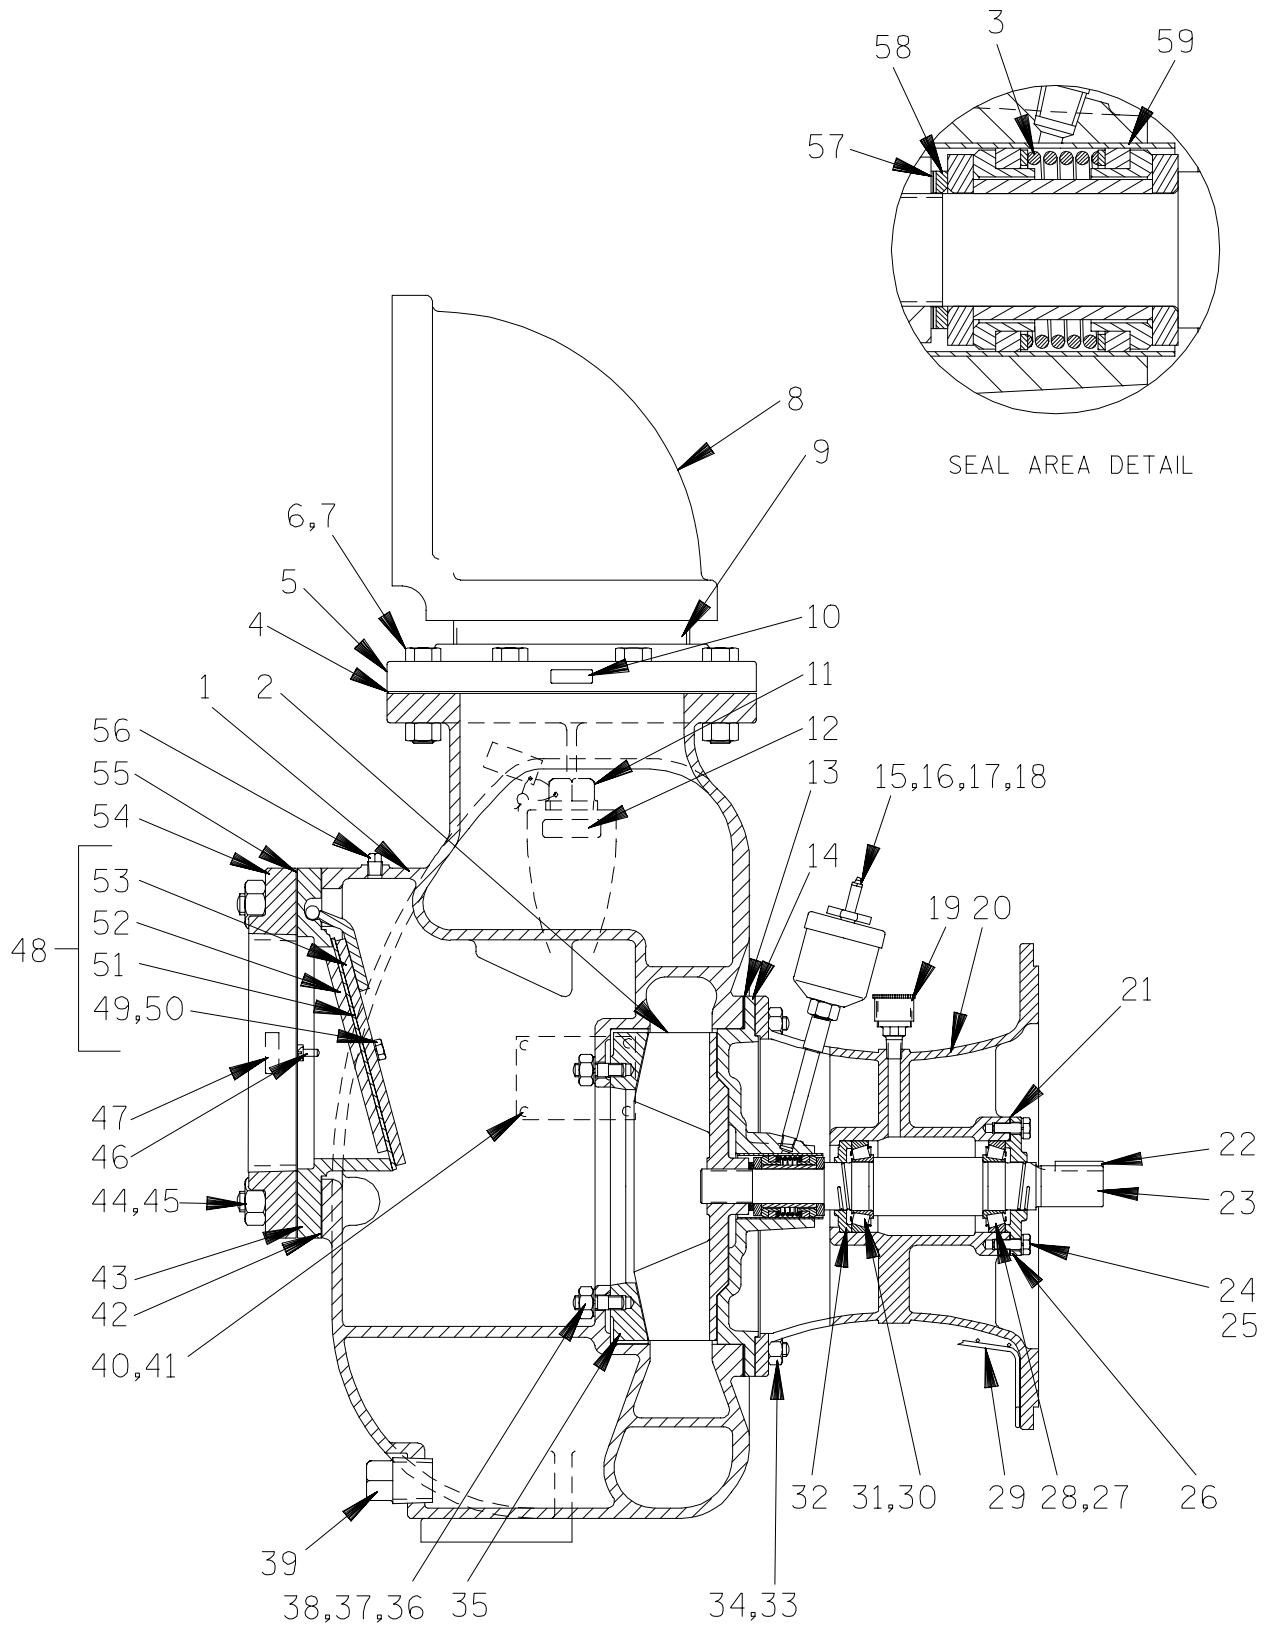

Figure 2. Pump End Assembly 88A2-(SAE 3/10)
(Figure 2)
As the assemblies separate, the flexible portion of the coupling assembly (3) will remain on the shaft. To remove the coupling from the shaft, unscrew the two allen head setscrews from the bushing (2). Screw one of the setscrews into the puller hole on the circumference of the bushing. As the coupling and bushing separate, remove the bushing, and slide the coupling off the shaft. Remove the shaft key (22, Figure 2).